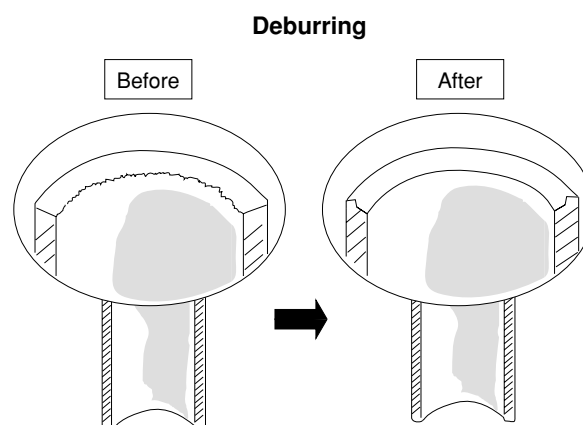

Fig. 7-1
- (1) Cut the copper tube to the required length with a tube cutter. It is recommended to cut approx. 30 – 50 cm longer than the tubing length you estimate.
- (2) Remove burrs at the end of the copper tube with a tube reamer or file. This process is important and should be done carefully to make a good flare. (Fig. 7-1)